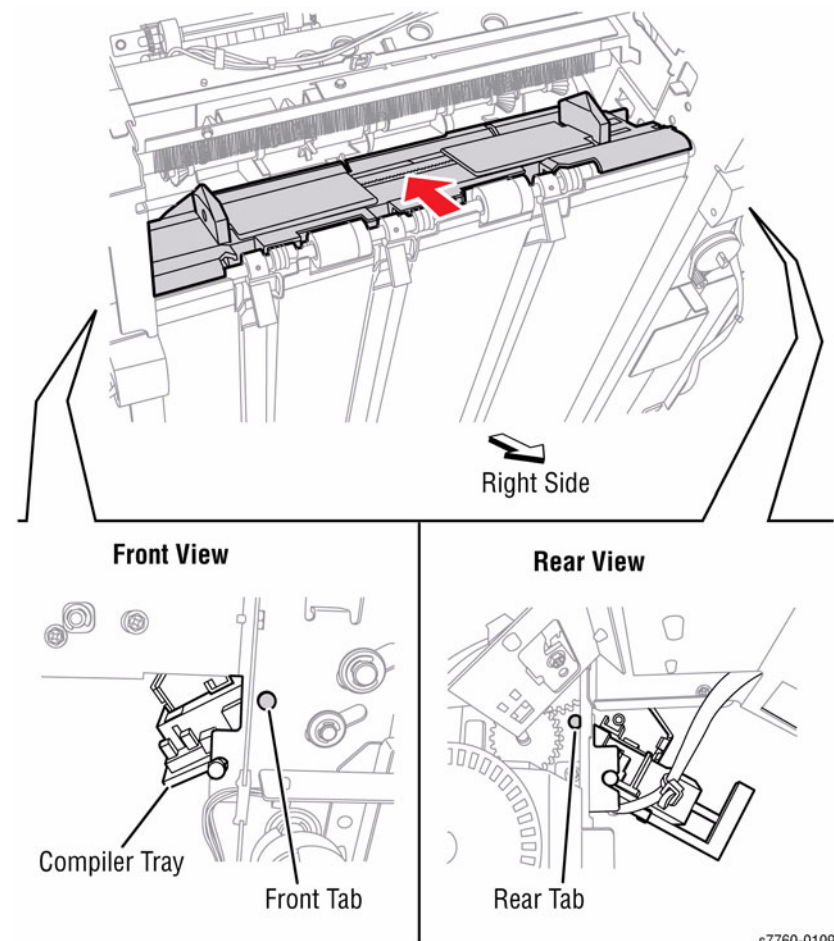

Figure 3 Tab Locations
7. Removing the Compiler Tray (Figure 3).